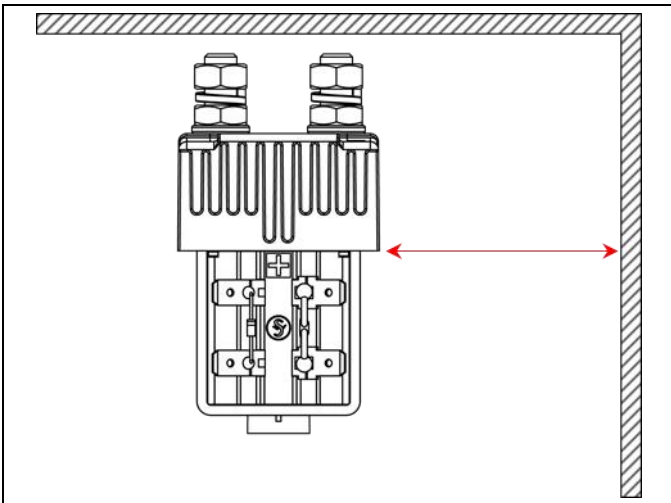

Fig. 3: Clearance to ground for AFS SPST
- It is recommended to leave **60 mm** between the contactor and a grounded surface where the arc exits the top cover as shown in **Fig. 3**.